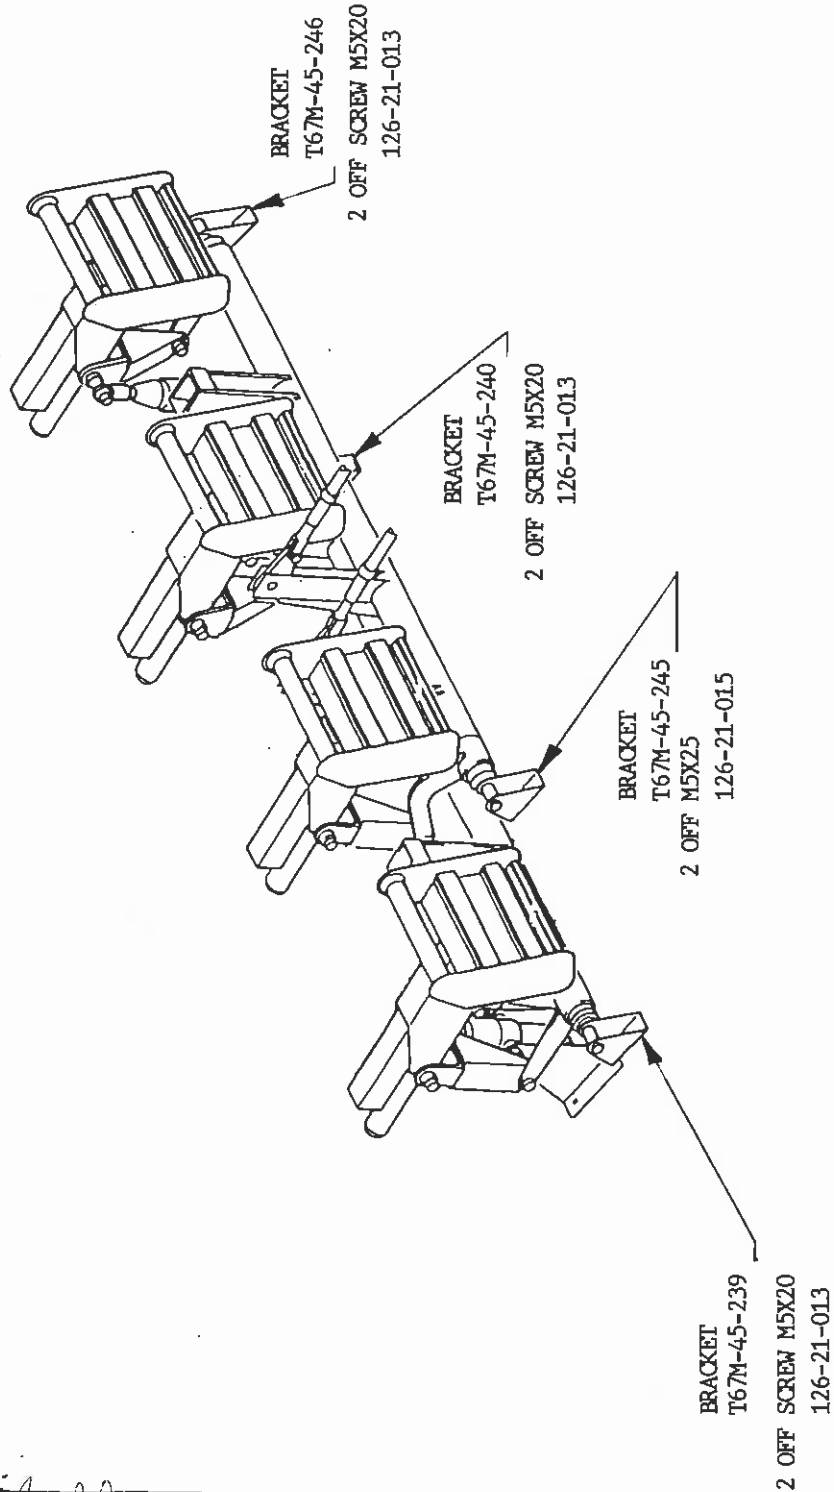

Fig 1
1. Gain access to brackets ref. Fig. 1.